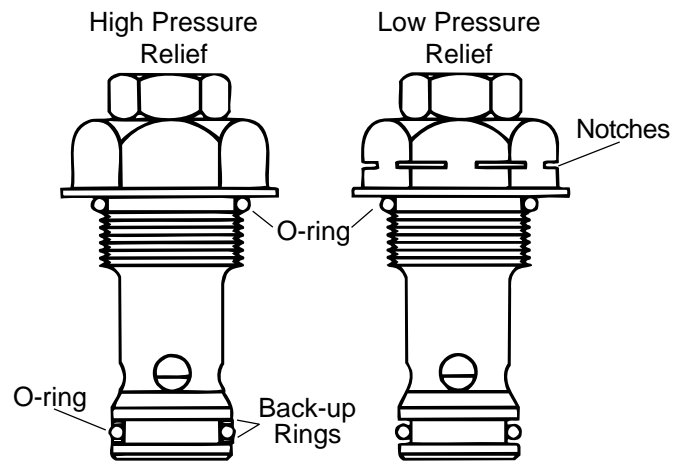

Figure 4
**Note:** The low pressure relief valve can be identified by the notches machined into its large hex head, see figure 4.
Install back-up rings around the small o-rings on the high pressure relief valves, see figure 4.